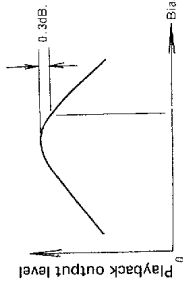

Fig. 28
21.6 BIAS VOLTAGE VARIABLE RANGE (Fig. 28)
1. Set for 4 (2) channel simultaneous recording mode.
4. Adjust so that after passing peak, each channel output at OUTPUT PLAY jacks (39 k ohms load) becomes -0.3dB, as shown in Fig. 28.